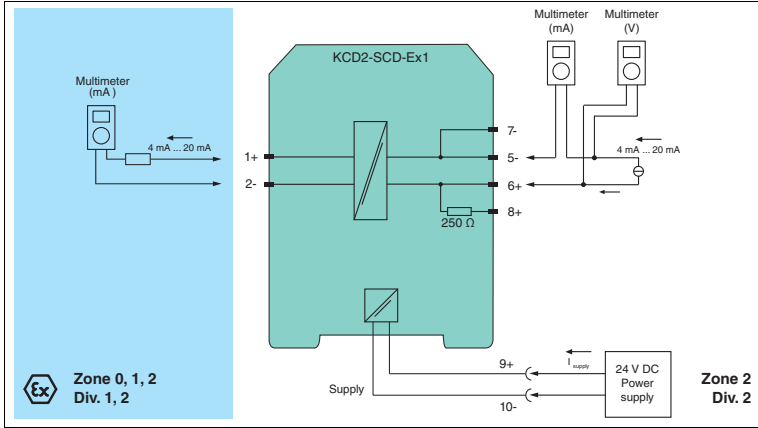
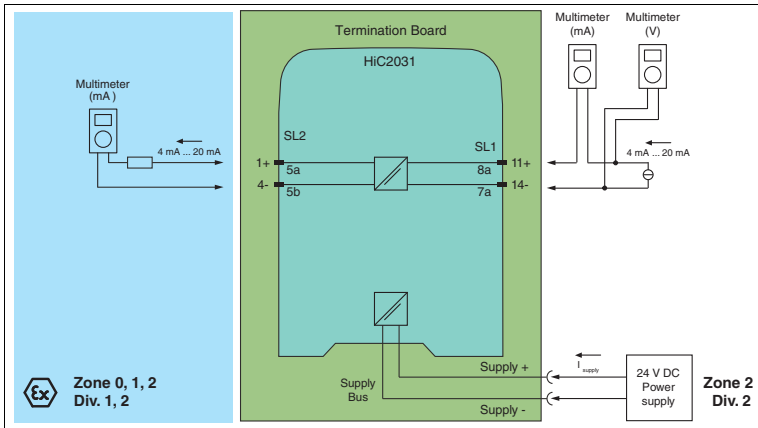

Figure 4.1 Proof test set-up KCD2-SCD-(Ex)1(.SP)
Figure 4.2 Proof test set-up for HiC2031
- Prepare a test set-up for testing the KCD2-SCD-(Ex)1(.SP) device (→ see Figure 4.1 on page 12) or for testing the HiC2031 device (→ see Figure 4.2 on page 12).